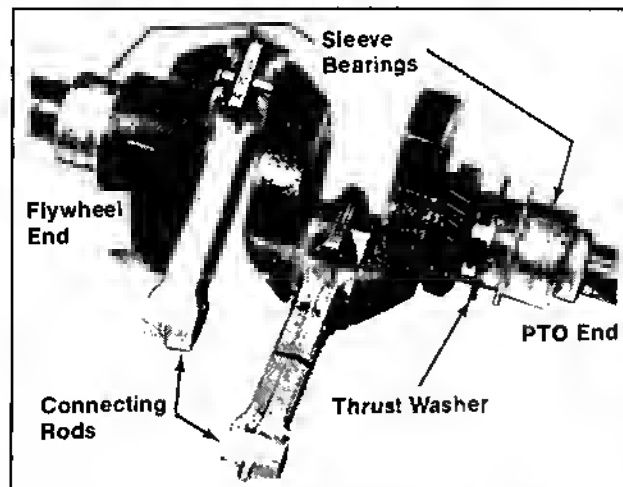

Figure 11-11. Installing Thrust Washer and Bearings to Crankshaft.
1. Lubricate the crankshaft bearing journals with engine oil. Install the .130" thrust washer to PTO end of crankshaft. Refer to Figure 11-11.